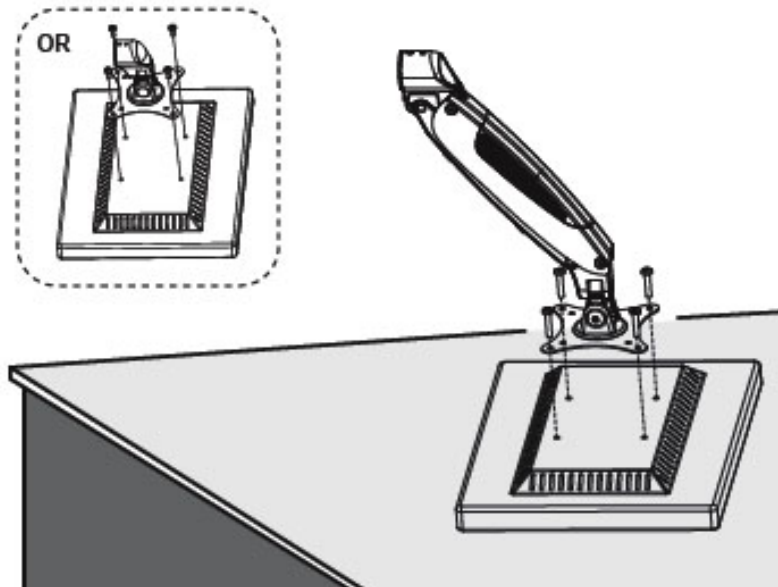

Figure 13A: Flat Back Monitor
- 3-A. For flat back surface use M4x12 Bolt, and tighten using a Phillips screwdriver, see Figure 13A.